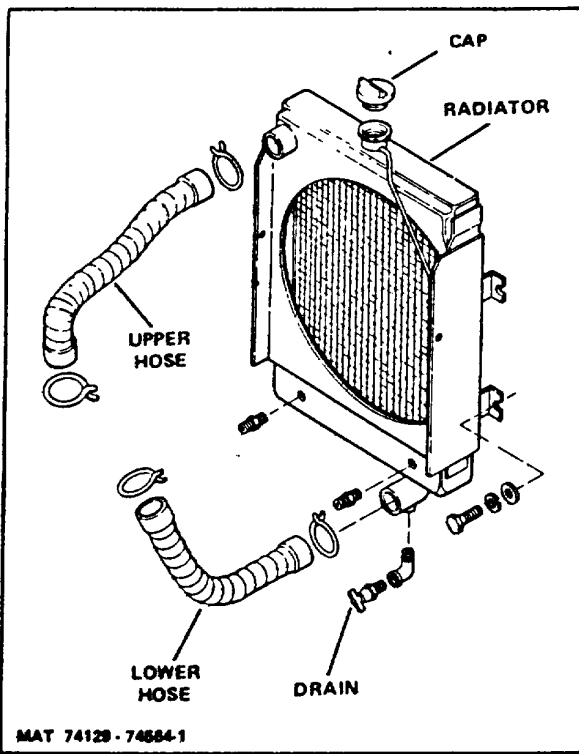

Figure 2. Radiator Assembly
The radiator (Figure 2) is of the fin and tube type and is vertically supported by angle bracing to the truck frame. The front of the radiator is protected from structural damage by a heavy grille mounted in the counterweight. An overflow tube is connected to the filler neck and leads to the bottom of the radiator.
7. Close the cooling system drain cock located below the ignition coil and at bottom of radiator (Figures 2 and 3). Fill system to recommended capacity with coolant; replace pressure cap and check for any leaks.